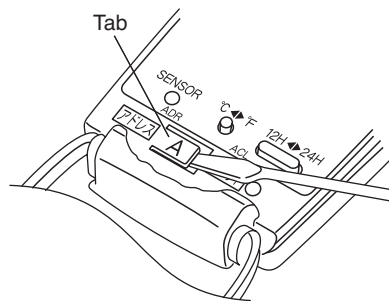
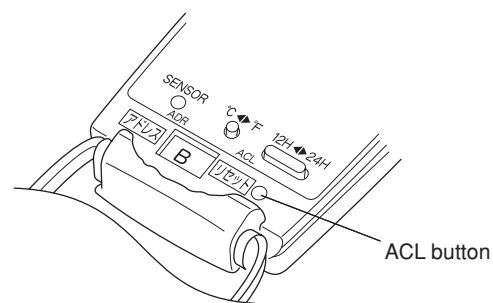
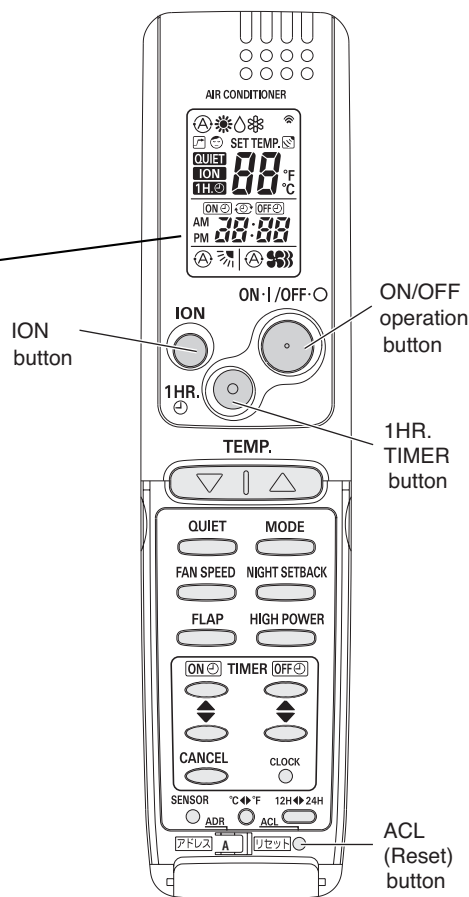

Fig. 62
Fig. 63
Fig. 64
- (1) Switch on the power source.
- (2) Break the address-setting tab marked "A" on the second remote controller to change the address (Fig. 62). When the tab is removed, the address is automatically set to B (Fig. 63).
- (3) Press and hold the remote controller ION button and 1 HR TIMER button. At the same time, press the ACL (reset) button. Use a thin object such as the tip of a pen to press the ACL button. When this has been done, "oP-1" (test run) appears, blinking, in the remote controller clock display area.
- (4) Each time the 1 HR TIMER button is pressed, the display changes as shown below. Press this button 2 times to change the display to "oP-7" (address setting). (Fig. 64)
- (5) "oP-7" has now been selected for address setting.
- (6) Press the ON/OFF operation button on the remote controller. (Fig. 64) Check that the "beep" signal-received sound is heard from the second indoor unit (approximately 5 times). The sound you hear is the signal that the remote controller address has been changed.
- (7) Finally press the remote controller ACL (reset) button to cancel the blinking "oP-7" display. (Fig. 64)